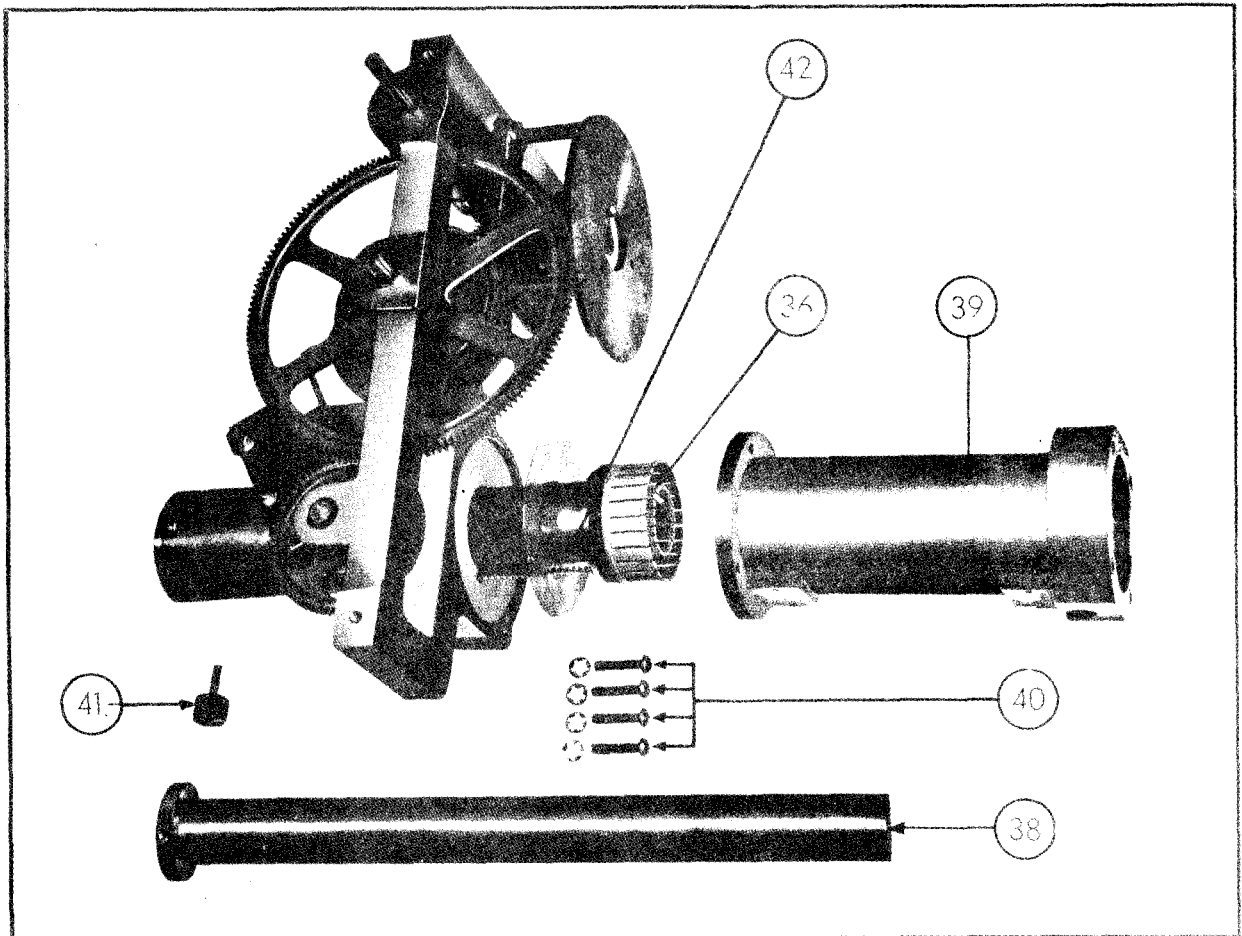

Figure 4-28. Assembly of Brush Assembly, Outer and Inner Conductors
Figures 4-28 and 4-29 show the assembly of the inner conductor (38), wiper carriage and wiper (36), and outer conductor (39). The wiper carriage should be inserted into the housing, aligning the rack on the carriage with the keyway in the housing. It is necessary to tilt the carriage slightly when inserting in order that the rack can clear the pinions inside the housing. The outer conductor (39) can then be slid over the wiper, gently pressing the contact fingers of the wiper in order to allow the outer conductor to slide over the wiper. This should be done while making certain that the rack on the wiper carriage